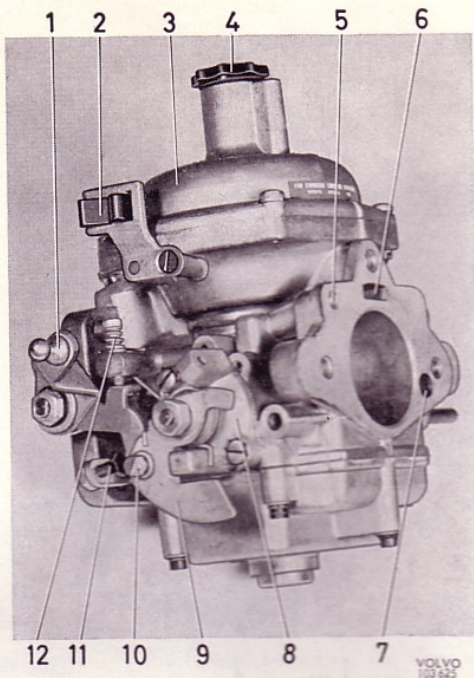
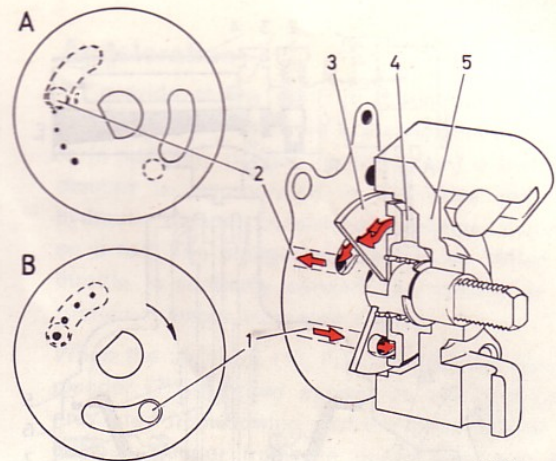

Fig. 64 Stromberg-carburettor, left side, B 20 A
Fig. 71 Cold-start device
The carburettor for the B 20 A engine is shown in Figs. 64 and 65. It has been designed with a view to obtaining cleaner exhaust gases by means of an exhaust emission control system.
To facilitate starting during cold weather, the carburettor is provided with a cold-start device (Figs. 71 and 72). (For the B 20 B engine, only on the rear carburettor.)
The cold-start device consists of a choke lever (3, Fig. 71) which is provided with four calibrated holes and an elongated opening as well as a channelled disc (4) mounted on a spindle which is operated by the choke control. On the same spindle, outside the housing (5), there is a cam disc (9, Fig. 64) with connection for the choke control pull wire. When the cold-start device is engaged, the valve disc turns and this links up the channel (1, Fig. 71) from the floatchamber via one or several of the calibrated holes to the channel on the other side of the valve disc and the drilling in the channel (2), which terminates in the venturi between the vacuum plunger and choke flap. By means of this
link-up, the engine receives extra fuel (richer mixture) to facilitate cold starting. At the same time, a little extra air is obtained by means of the choke device. When the choke control is pushed in, the valve disc turns and closes the inlet to the channel. At the same time as the cam disc is operated, the throttle flap opening is also influenced in such a way that turning the cam disc opens the throttle through the fast idle stop screw (11, Fig. 64) and the lever, before any of the calibrated holes open the connection to the fuel drilling. With this arrangement, the idling speed can, if necessary, be raised by the driver of the vehicle during the warming-up period of the engine.